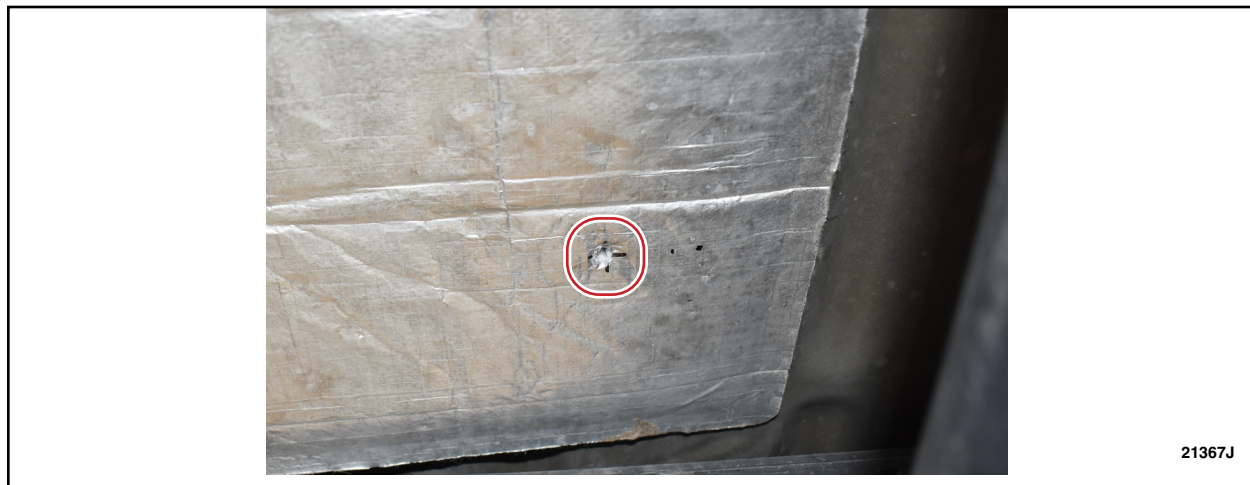

FIGURE 5
6. Using the 6.7mm (17/64 in) drill bit, drill a hole through the insulator and into the floor. See Figure 5.